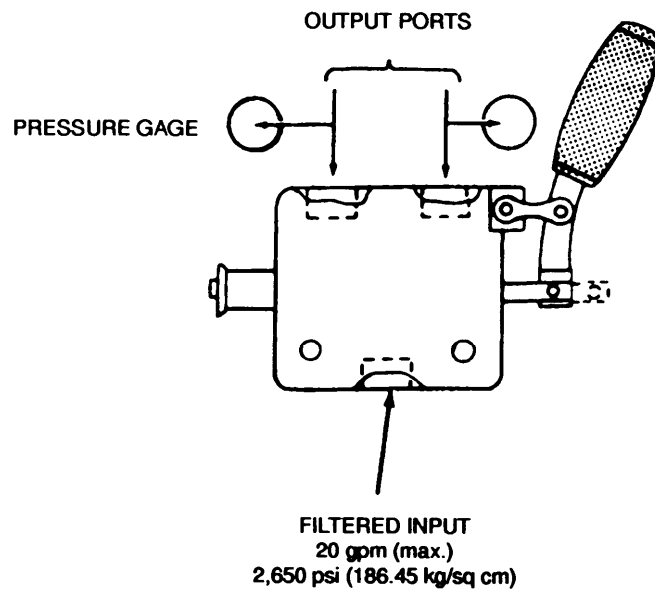

Figure 3-3. Selector Valve, Test.
a. Test. (figure 3-3)
- (1) Using suitable hydraulic test equipment, connect valve as shown in illustration with filtered input of 210 gpm at 2,650 psi (182.71 kg/sq cm).
- (2) Measure the pressure at the front winch and rear hydraulics output ports, and verify fluidis being directed to the ports selected.
- (3) Using hydraulic gage check that pressure loss from either output port does not exceed 200 psi (13.79 kg/sq cm) at a fluid temperature of 111 °F to 140°F (43°C to 60°C).